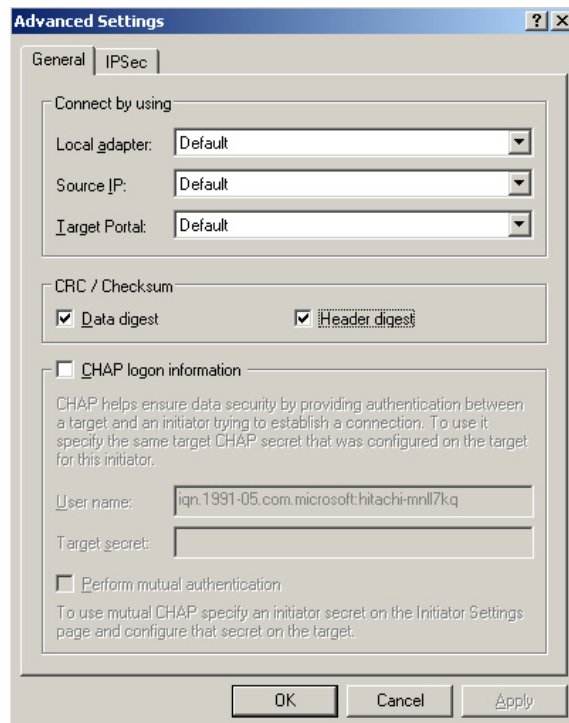

Figure C.14 Advanced Settings – Screen 1
15. Under **CRC /Checksum**, check **Data digest** and **Header digest** (see Figure C.14).